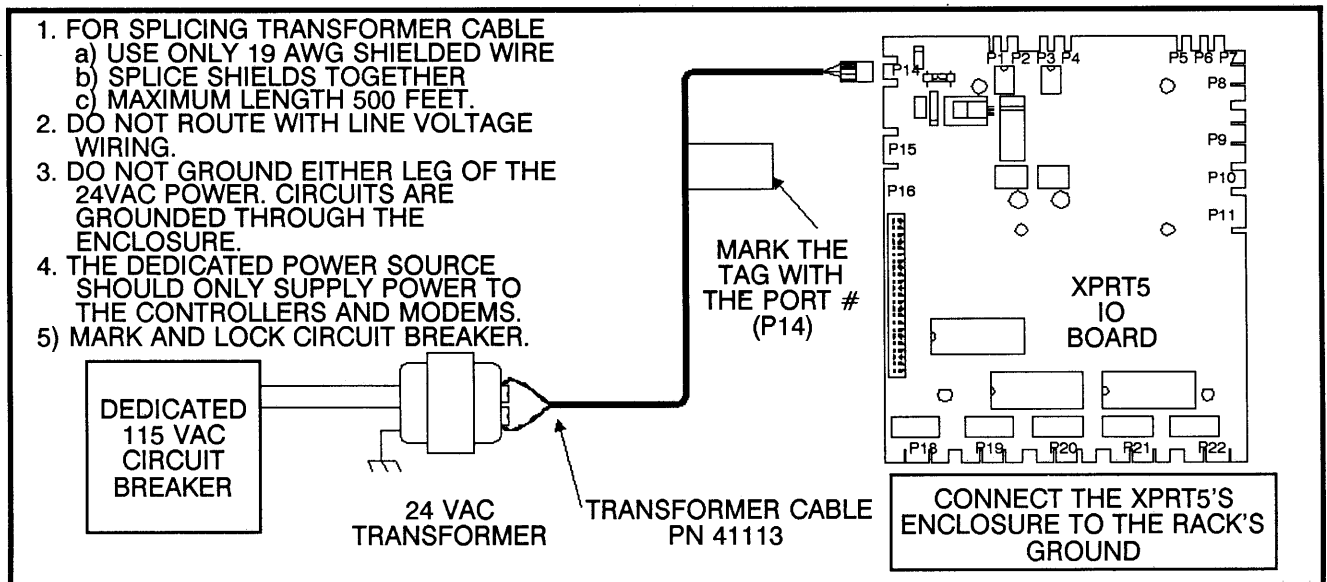

Figure C-1: Controller Mounting and Wiring
- Wire as shown in **Figure C-1** (If the XPRT5 is mounted on a wall, verify that the enclosure is grounded).